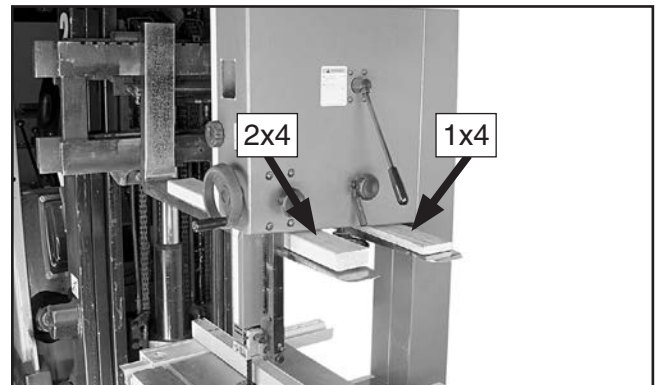

Figure 8. Using wood blocks to lift the bandsaw.
4. Carefully position the forks of the forklift under the bandsaw head, as shown in **Figure 8**, then place a 1x4 wood block between the head and the right fork and a 2x4 wood block between the head and the left fork.